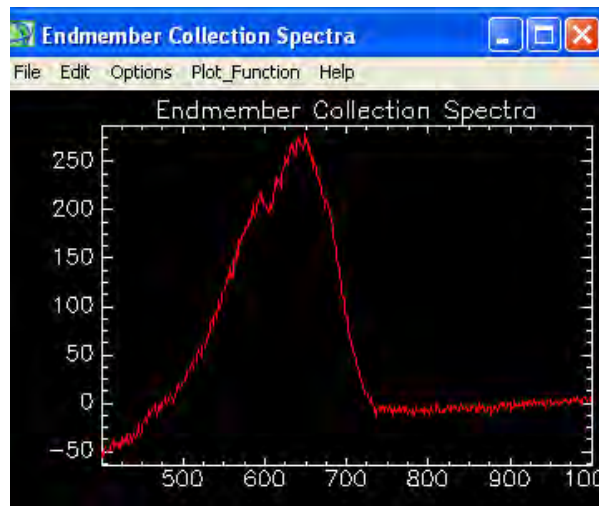

Figure 6. Plot containing the spectrum of the endmember6
4. Click "Plot" to create a plot window that is used to accumulate the Endmember Collection Spectra (see Figure 6). In this case we have a single endmember